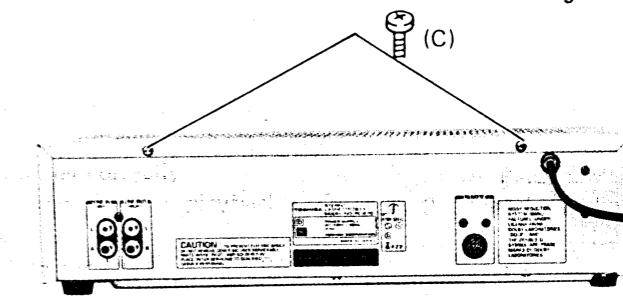

Figure 15
- 2 Remove two screws (C) from rear panel of unit. (See Figure 15)